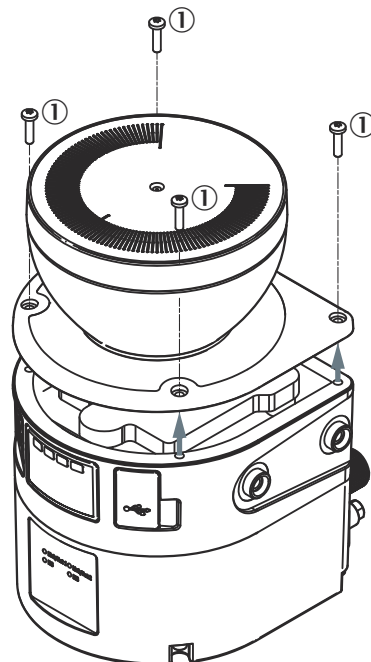

Figure 82: Fixing screws for the optics cover
14. Screw in new fixing screws, see figure 82, page 151.